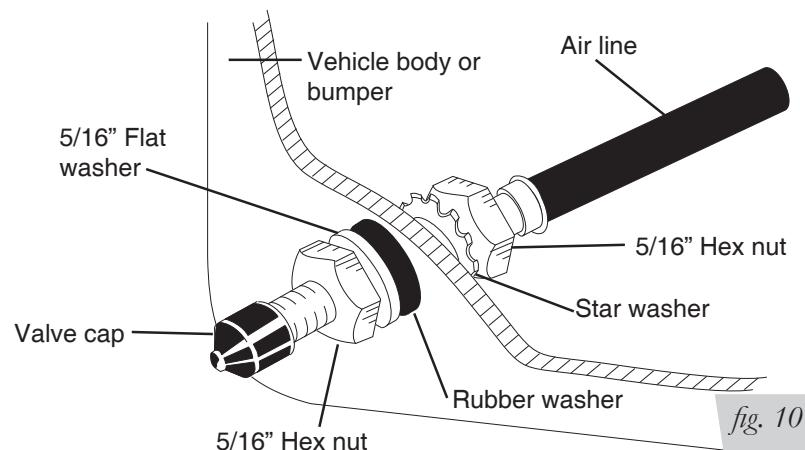

fig. 10
4. Place a 5/16" nut and star washer on the air valve. Leave enough of the inflation valve in front of the nut to extend through the hole and have room for the rubber washer, flat washer, and 5/16" nut and cap. There should be enough valve exposed after installation—approximately $\frac{1}{2}$ "—to easily apply a pressure gauge or an air chuck (fig. 10).